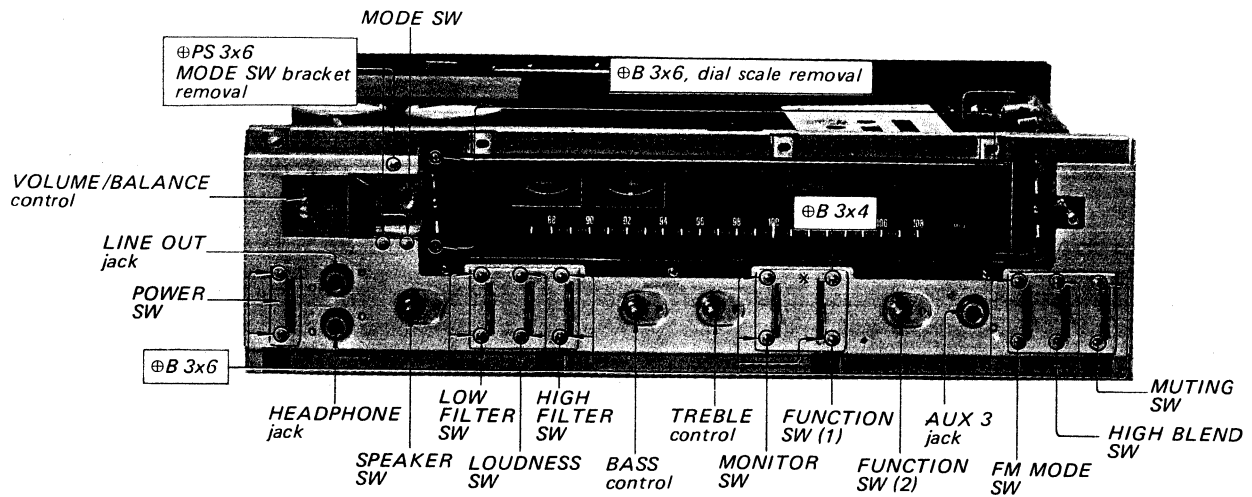

Fig. 2-5 Control and switch replacement
5. Referring to Fig. 2-5, remove the controls or bracket as given in the list below.
2. Remove the two screws ($\text{#B } 3 \times 6$) securing the dial-scale holder to the front subchassis as shown in Fig. 2-5.
1. Remove the two screws ($\text{#B } 3 \times 6$) securing switches to the front subchassis as shown in Fig. 2-5. Note that the upper screw of FUNCTION switch (1) is ($\text{#B } 3 \times 4$).
1. Remove the hex nuts that secure the switches or controls to the front subchassis as shown in Fig. 2-5.